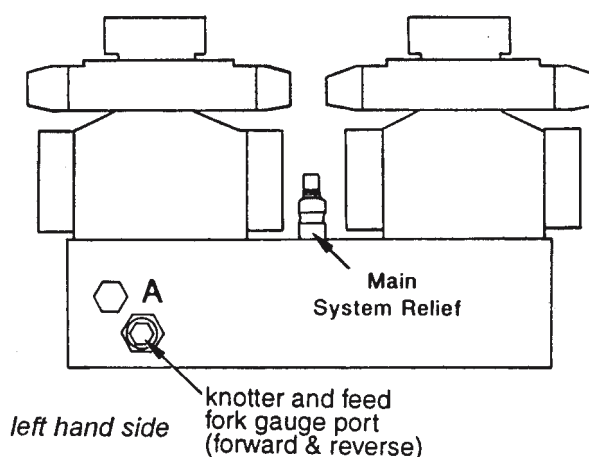
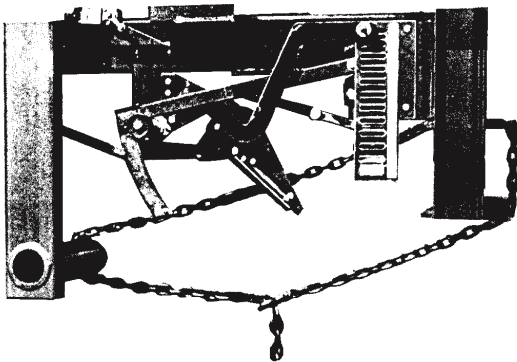

Figure 82 - Twine Needle Yoke in Home Position
Figure 85 - Twine Needle Yoke Chained to Frame
2. Remove the 1/4" JIC cap from gauge port (A) (see Figure 82).
3. Connect a 5,000 psi gauge to port (A).
6. Remove the 1/4" JIC cap from gauge port (A) (see Figure 82).
7. Connect a 5,000 psi gauge to port (A).
8. To prevent the knotter from moving in reverse, strap a 3/8" chain around the middle of the needle yoke to the frame (see Figure 85).